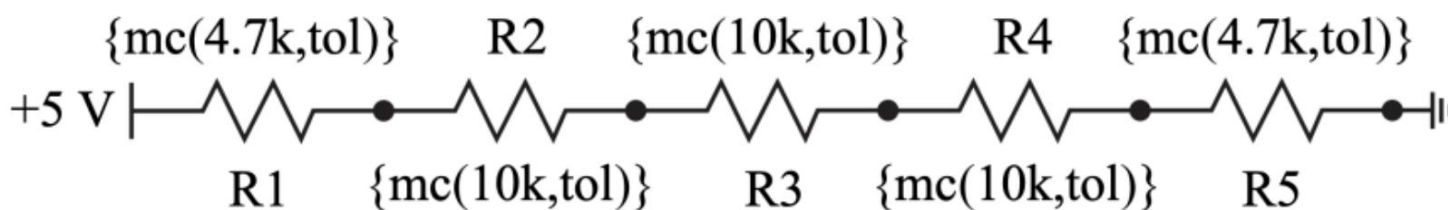

Figure 3.4: Resistor ladder with the values replaced by the LTspice Monte Carlo function.
1. Layout the circuit in Figure 3.4, setting the resistor values to call the mc function.